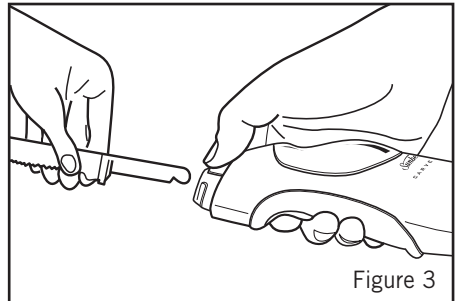

Figure 3
4. When slicing is completed, turn the power off at the power outlet and remove the plug. Slide back the Blade Release, hold the blades by the safety guards with the cutting edge facing downward and pull the blades out of the slots. See Figure 3.